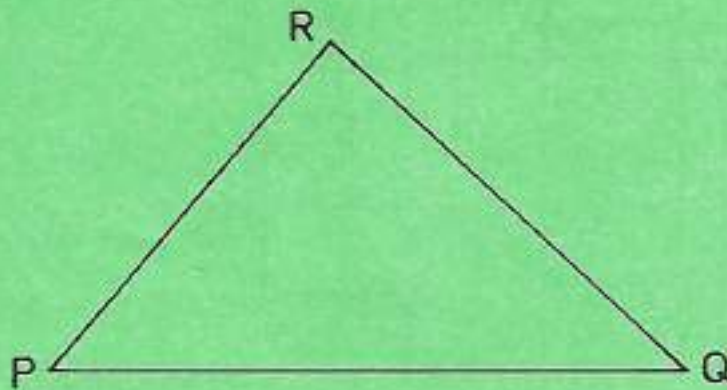

Fig. 2
- (b) Figure 2 shows a triangle PQR. Construct a square of same area as the triangle. (8 marks)